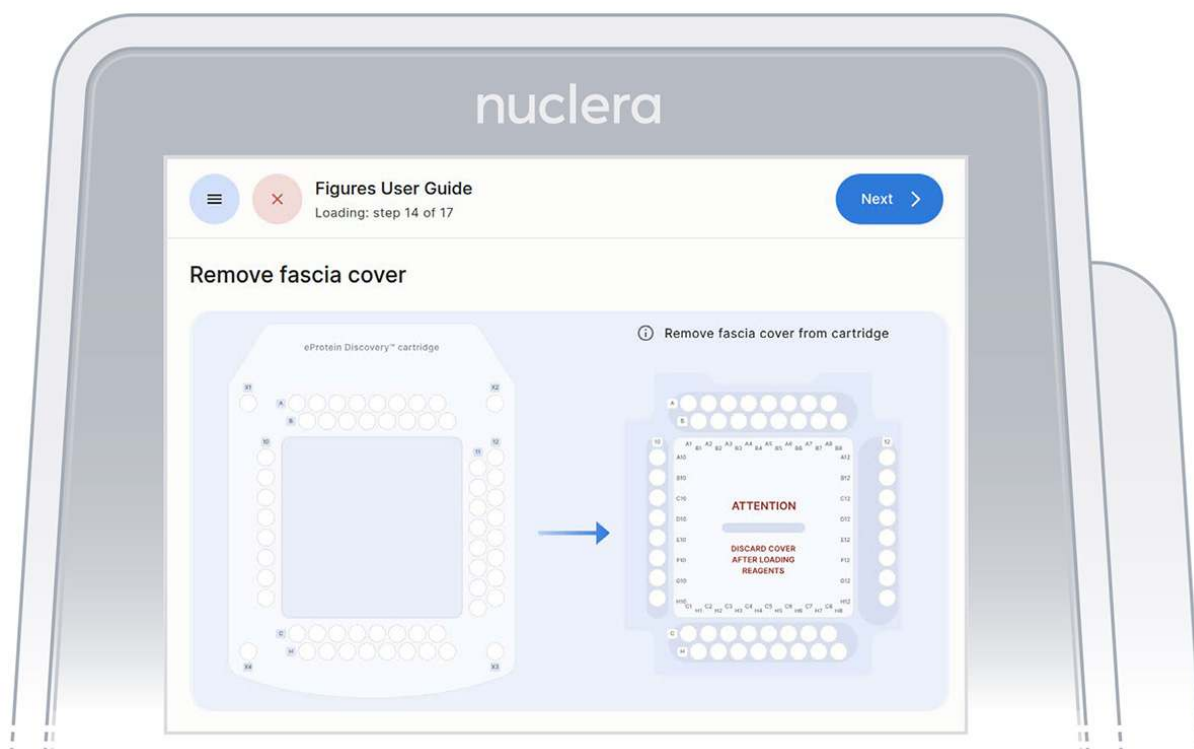

Figure 25: Remove the cover from the cartridge
5. Remove the cover from the cartridge (Figure 25)